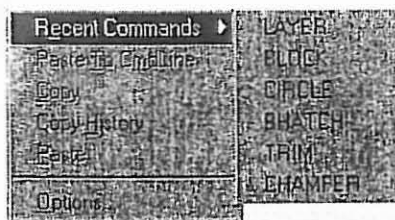

Fig.III-7. Recent commands
**RECENT COMMANDS** - At the command window, right click to display a shortcut menu of previous commands. (fig.III-7)